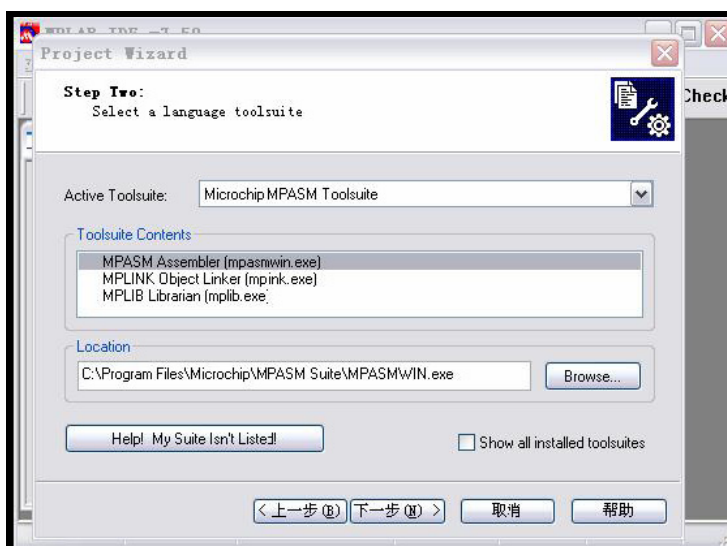

Figure 3-6 Choose compiler tools
Step 3, click "Next", select the appropriate compiler tools according to the source language and chip to be used, as shown in Figure 3-6.